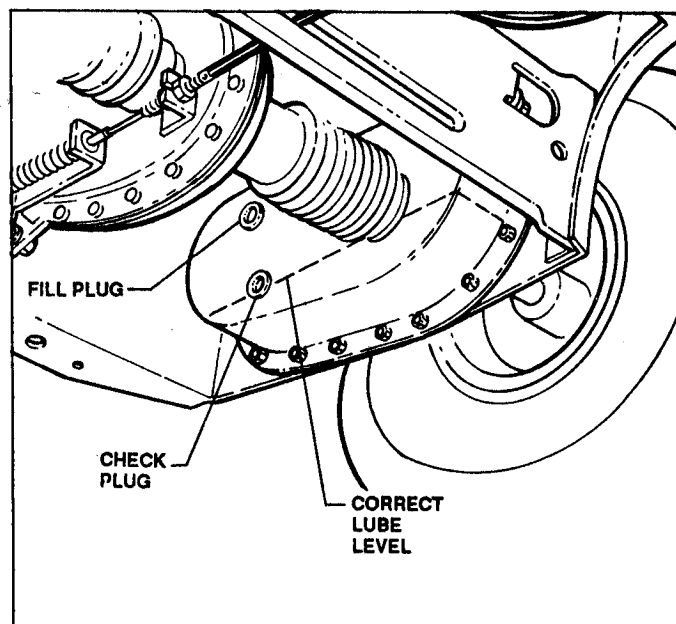

FIGURE 16
- Remove CHECK PLUG on inside of unit shown in Figure 16 to check level of oil. Add **SNAPPER "O"** grease as needed thru upper fill hole to bring the level up to the lower edge of the CHECK PLUG HOLE. Reinstall NEW plugs after servicing.